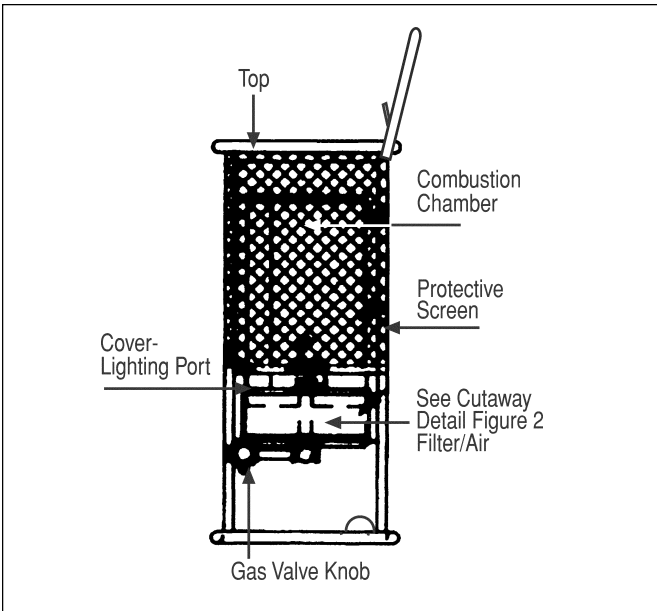

Figure 1
- 3 Turn the gas valve knob clockwise to the "OFF" position. See Fig. 1 and Fig. 2 for location of appliance parts.
- 6 Turn the gas valve knob counter-clockwise to the "PILOT" position (see Fig. 1).
- 7b To light the pilot, move the lighting hole cover aside (see Fig. 1) and place a lighted match into the hole. Depress the gas valve knob and hold while lighting and observing the pilot burner. Ensure that the pilot burner ignites from the match. Allow the pilot to burn approximately 30 seconds before releasing the gas valve knob. If pilot does not remain lighted, repeat the lighting operation allowing a longer period of time before releasing the gas valve knob.
- Turn the gas valve knob counter-clockwise to the "ON" position (see Fig. 1). The burner will light. **DO NOT operate the heater in any other than the full "ON" position.**